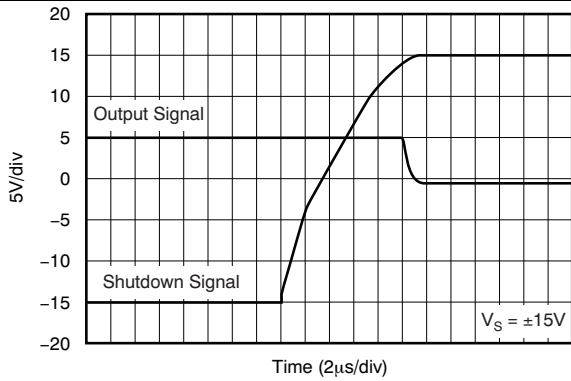

Figure 39. Turnoff Transient
(1) When disabled, the output assumes a high-impedance state.
(2) See Typical Characteristics curves, Figure 39 through Figure 41.
The shutdown (enable) function of the OPA211 is referenced to the positive supply voltage of the operational amplifier. A valid high disables the operational amplifier. A valid high is defined as $(V+) - 0.35$ V of the positive supply applied to the shutdown pin. A valid low is defined as $(V+) - 3$ V below the positive supply pin. For example, with V_{CC} at ± 15 V, the device is enabled at or below 12 V. The device is disabled at or above 14.65 V. If dual or split power supplies are used, care should be taken to ensure the valid high or valid low input signals are properly referred to the positive supply voltage. This pin must be connected to a valid high or low voltage or driven, and not left open-circuit. The enable and disable times are provided in the Typical Characteristics section (see Figure 39 through Figure 41). When disabled, the output assumes a high-impedance state.